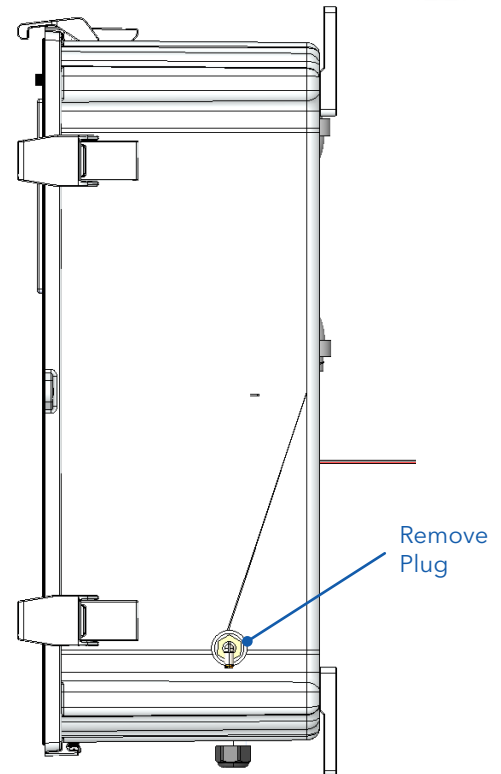

Figure 3.2 9220 Right Side View
9. Remove the transport plug from the NDIR vent port on the right side of the 9220 as show in Figure 3.2.